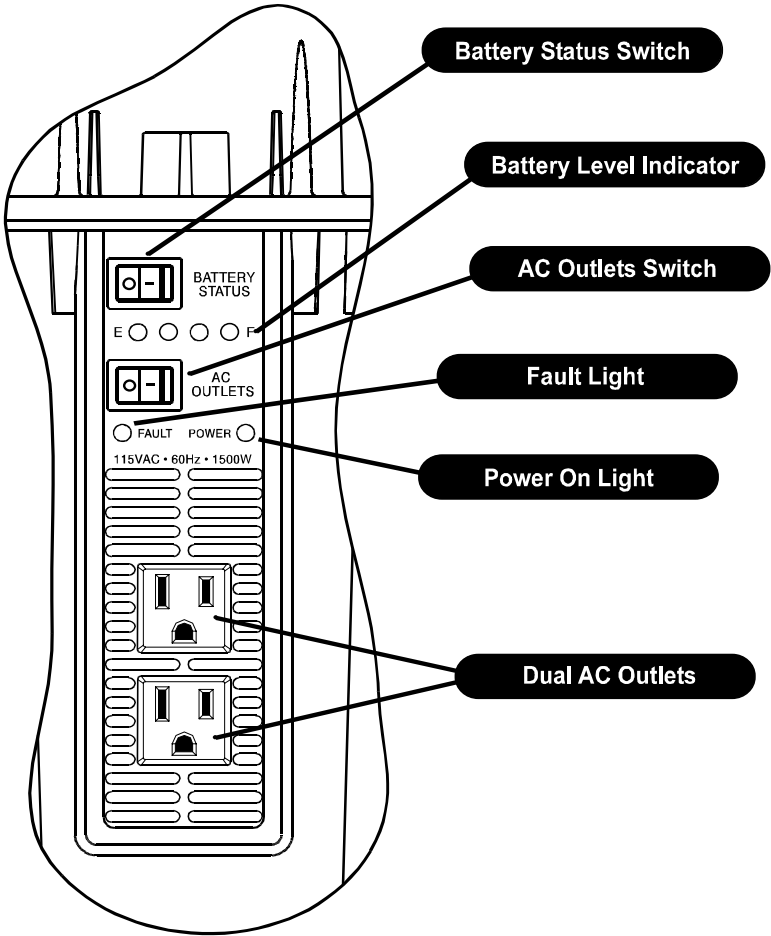

Figure 3 - AC Power Panel
As shown in Figure 3 below, the AC Power Panel contains the Battery Status Switch, Battery Level Indicator, AC Outlets Switch, AC Power Light, Fault Light, and dual AC Outlets.
1. Turn on the AC Outlets Switch located on the AC Power Panel. The green POWER light illuminates to confirm AC power is now on and available at the two AC Outlets. See Figure 3 in Section 3.